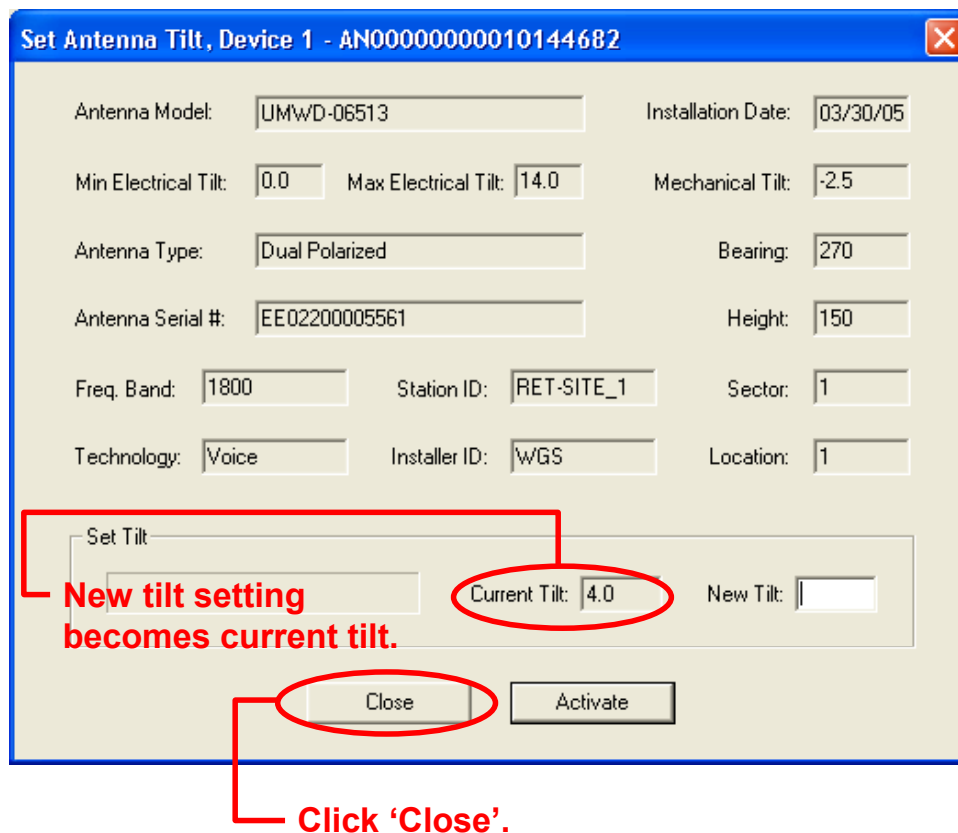

Figure 6-4. New Electrical Tilt Displays in 'Current Tilt' Field.
7. At the successful completion of an antenna movement, the 'Current Tilt' field will update to show the new tilt angle and the 'New Tilt' text entry box will be cleared in preparation for the next move (Figure 6-4). At this point, you may click on the 'Close' button to exit this screen and return to the main screen. Alternately, this process may be repeated to further adjust the downtilt or to reapply changes where movement had previously failed, such as a temporary mechanical jam.